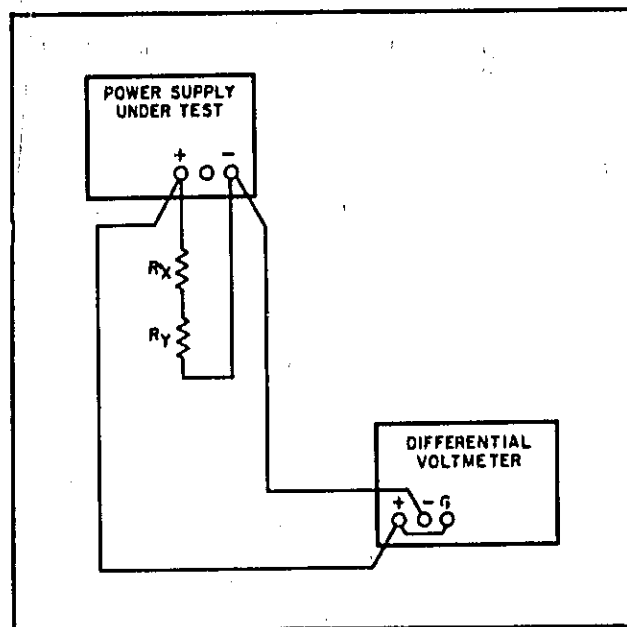

Figure 5-5. Load Regulation, Test Setup
- a. Connect test setup as shown in Figure 5-5.
- c. Connect test setup shown in Figure 5-5.
a. Connect test setup shown in Figure 5-5.
- a. Connect test setup shown in Figure 5-5,